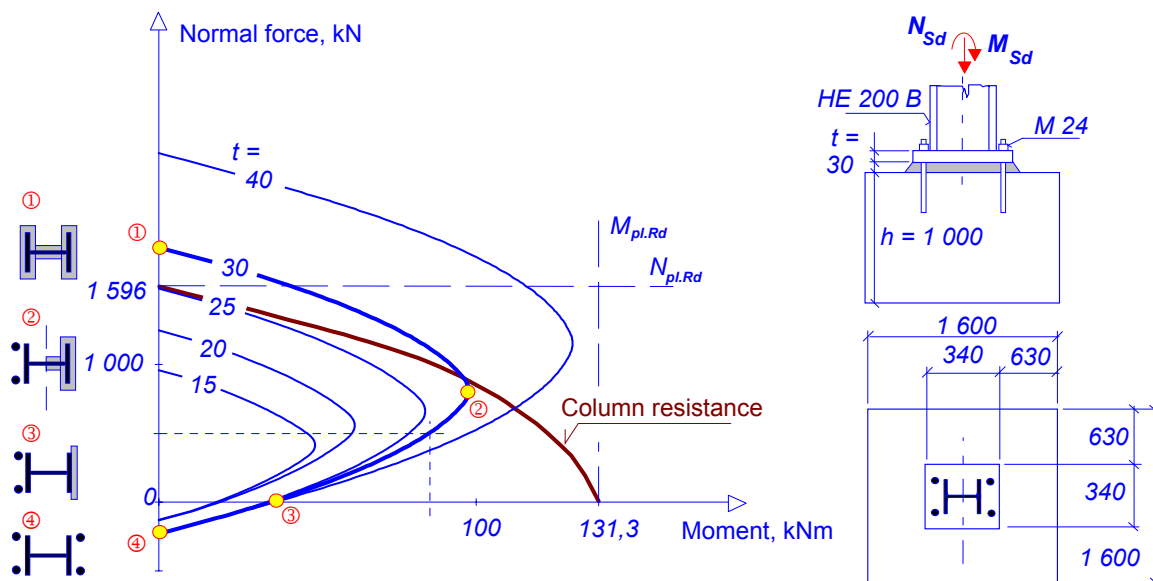

Figure 5WE7-2 The column base resistance for the different base plate thickness
2) The column base resistance is compared to the column resistance for the different base plate thickness in Fig. 5WE7-2 For plate P 30 are shown the major points of the diagram, e.g. the pure compression, the highest bending resistance (the point of the coincidence of the neutral axis and the axis of symmetry of the cross section), the pure bending, and the pure tension.
①②③④